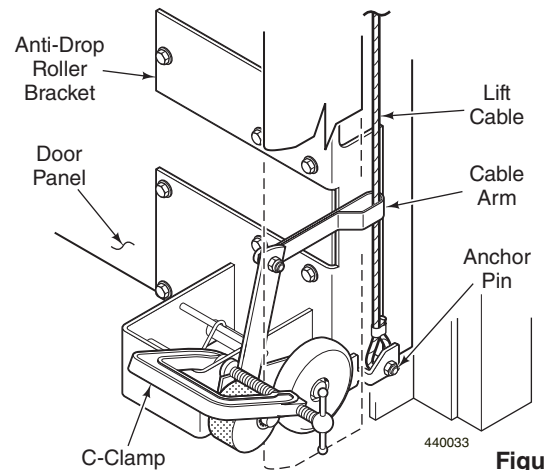

Figure 25
6. With the Door resting on the ground or shim block, release the Brake Arm and Cable Arm from the clamped or wired open position. The Cam Brake will clamp against the Vertical Track until the Cable installation is complete. See *Figure 25*.